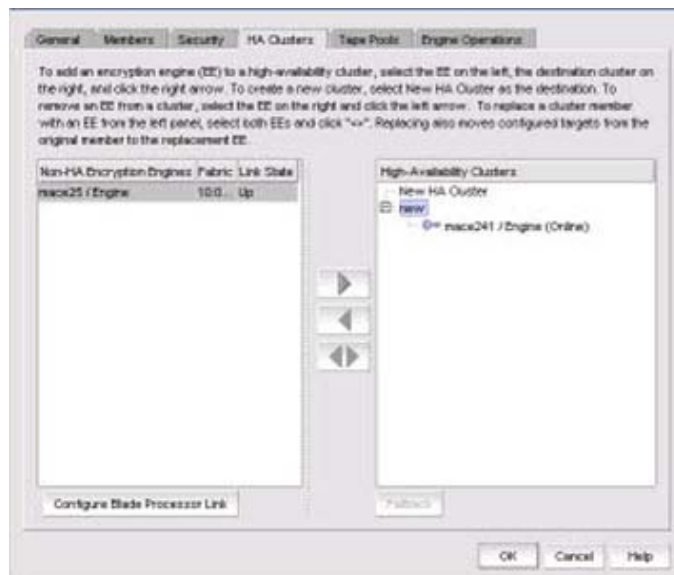

FIGURE 295 Encryption Group Properties dialog box - HA Clusters tab
The **Encryption Group Properties** dialog box displays, with the **HA Clusters** tab selected. (Refer to Figure 295.)
3. Select an engine from the **High Availability Clusters** table, then click the left arrow. (Refer to Figure 295.)
The **Encryption Group Properties** dialog box displays, with the **HA Clusters** tab selected (Refer to Figure 295.)